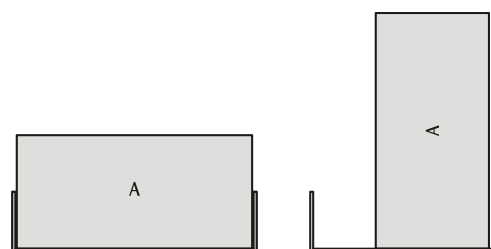

Fig. 1: Investigation of static and sliding friction with friction body A with two different contact areas.
- Insert the sliding friction surface into the friction track either with its smooth or coarse facing down. Then place a friction body onto the sliding friction surface. (See Fig. 1 and Fig. 2.)